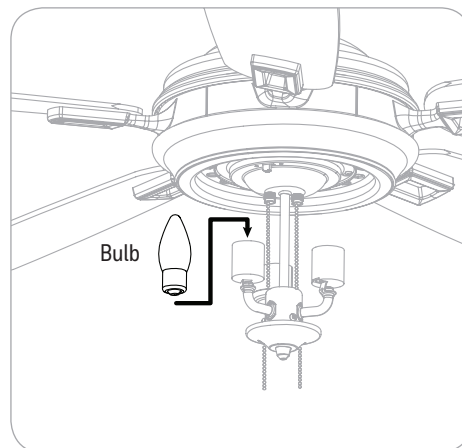

Figure 5.8
8. Install the three E26-base LED bulbs (Figure 5.8).